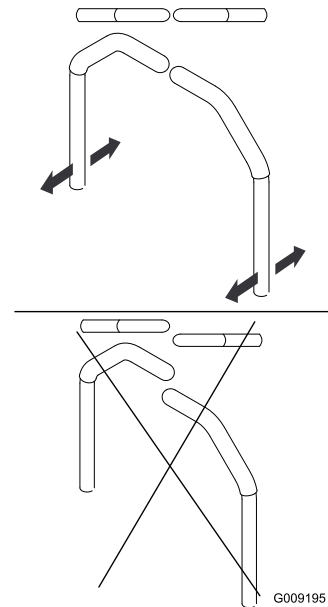

Figure 87
4. Align the front-to-rear position of the levers by bringing the levers together to the neutral position and sliding them until they are aligned; then tighten the bolts (Figure 87).